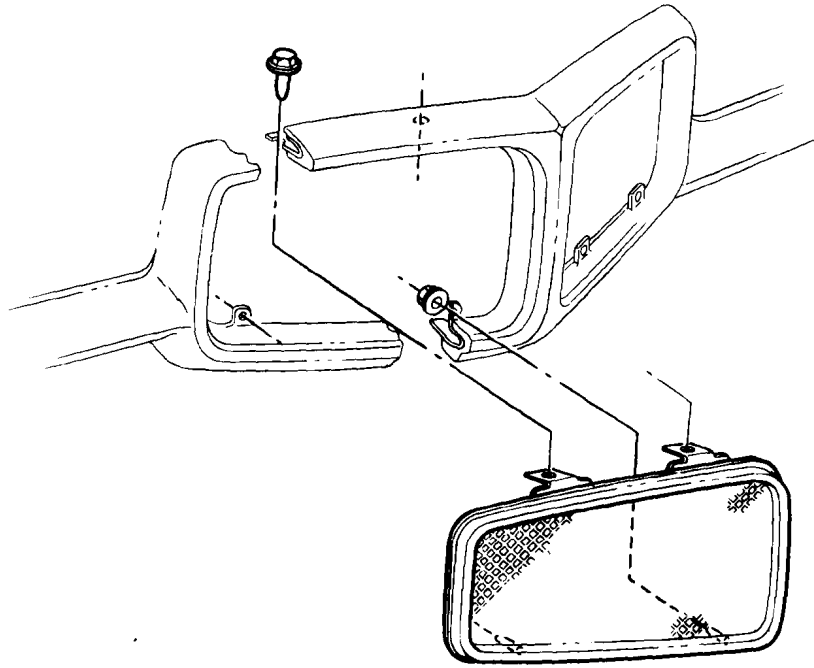

Fig. 14-9 GT and G.T.O. Grille Assembly
7. Remove grille assembly (Fig. 14-9)